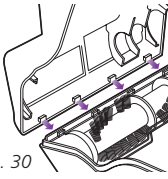

Fig. 30
- 3 To reassemble, insert the tabs on the front edge of the bottom cover into the matching holes in the top half and tilt it back down until it clicks into place. (Fig. 30)